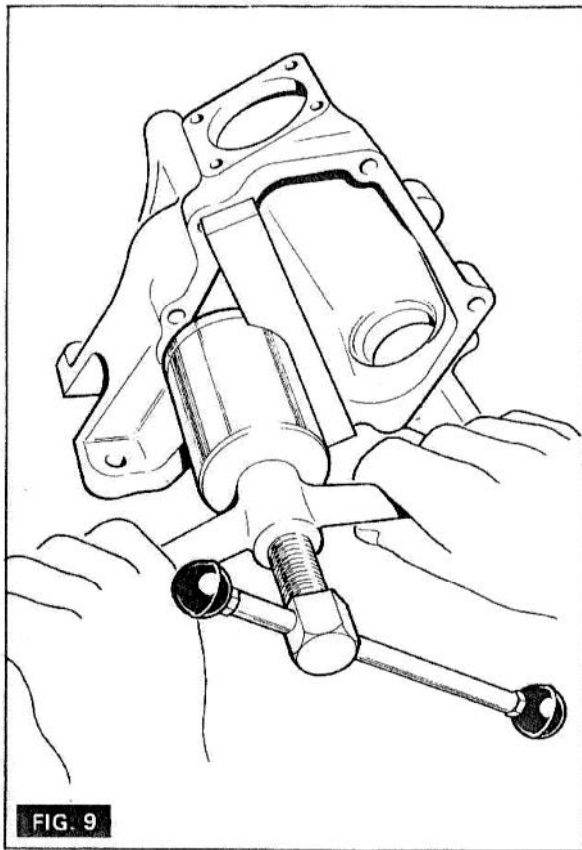

FIG. 9
2. Using tool MF 263 and 263-2 (together with a bar 6" long, 1" wide, 5/8" thick and suitably radiused to suit main tool MF 263 for the inner bush only (as shown in Fig. 9), cut a thread into the bush by turning the upper handle fully clockwise.